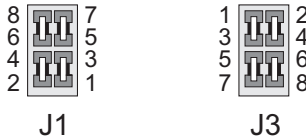

Figure D-4. Sourcing Driver Jumper Configurations
Figure D-4 shows the jumper configurations for a sourcing driver output.
4. For the XP8120 expansion board, install the J3 jumpers in the sourcing configuration, as shown in Figure D-4, for “Bank B” output channels 0–15. Note the location of pin number 1.